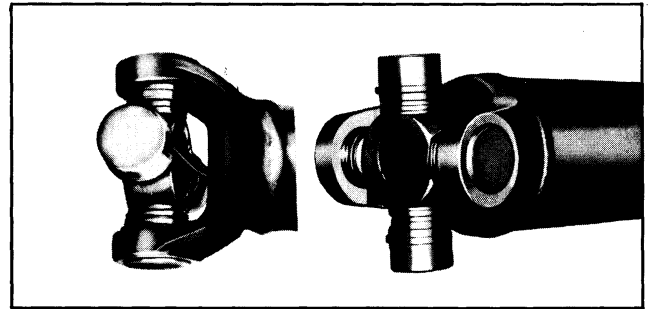

Fig. 4-6 Bearings Held in Place by Retainer Strap
2. Turn down lock plates and remove "U" bolts which hold rear universal joint to companion flange. Use a heavy rubber band or tape to hold bearings onto journal to prevent loss of bearing rollers when joint is disconnected if retainer strap has been removed (Fig. 4-6).